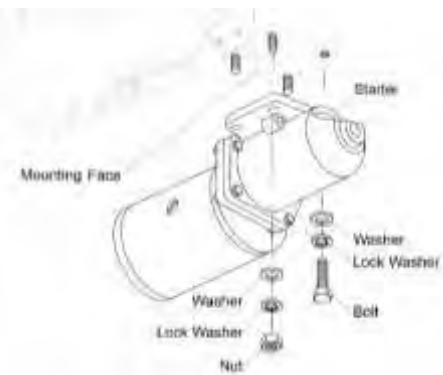

Figure 62
- (1) Disconnect the battery.
- (2) Remove electrical leads from the starter. Refer to the airframe manufacturer's manual.
- (3) Remove the bolt, lock washer, and washer from the starter (Figure 62). Discard the lock washer.
- (4) Hold the starter and remove the three nuts, lock washers, and washers from the studs on the mounting face for the starter. Discard the lock washers.
- (5) Remove the starter from the studs on the engine.
- (1) Install the starter onto studs and seat on mounting face of the engine (Figure 62).
- (2) Install the starter with a flat washer, a new lock washer, and a nut on each of the three studs.
- (3) Install the bolt, a new lock washer, and a flat washer in the vacated hole on the engine mounting face of the starter.
- (4) Tighten and torque the bolt and all of the nuts per the Standard Torque Tables in the latest revision of the **Service Table of Limits - SSP-1776**.
- (5) Install electrical leads to the starter as per the airframe manufacturer's manual.
- (6) Connect the battery.
- (7) Complete the operational ground check in Chapter 72-00, to make sure the starter operates correctly.